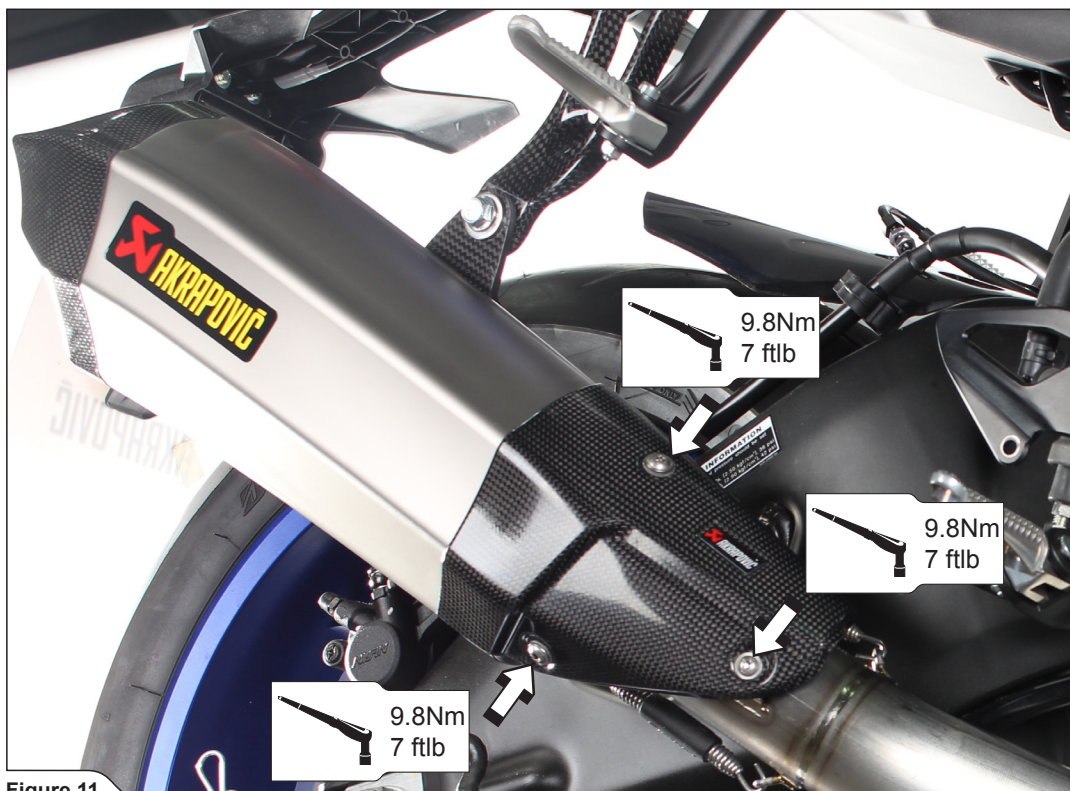

Figure 11
7. Place the heat shield over the muffler - link pipe connection and tighten all the heat shield bolts, as shown (Figure 11).